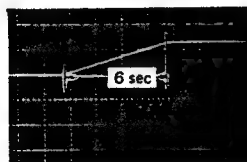

Fig. 14-1
- (1) Select the PROGRAM selector to "BLACK".
- (2) Connect an oscilloscope to CN01 pin ⑫ on LB BOARD.
- (3) Adjust R162 (RISE TIME) so that rise time is 2 sec, when select the PROGRAM selector from "BLACK" to "EFF". (Fig. 14-1)